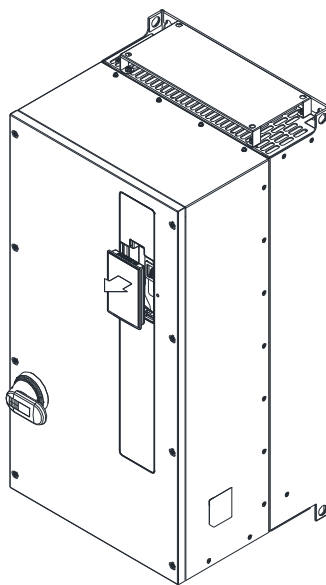

Figure 6-16
- 1) Remove the keypad. (As shown in figure 6-16)